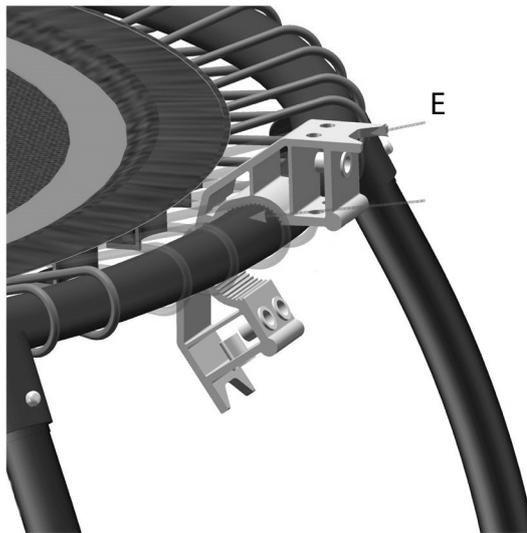

fig. 1
1. Place the clamp (E) between two legs on the frame of the trampoline (see fig. 1).